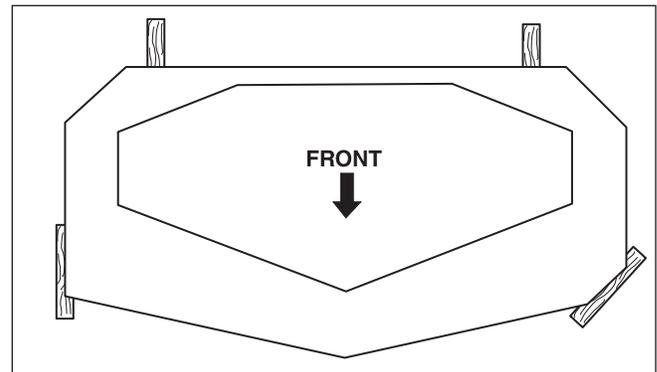

Figure 40. 2 x 4 Locations
6. Block up the mower deck until all hanger chains are slack. Refer to Figure 40.